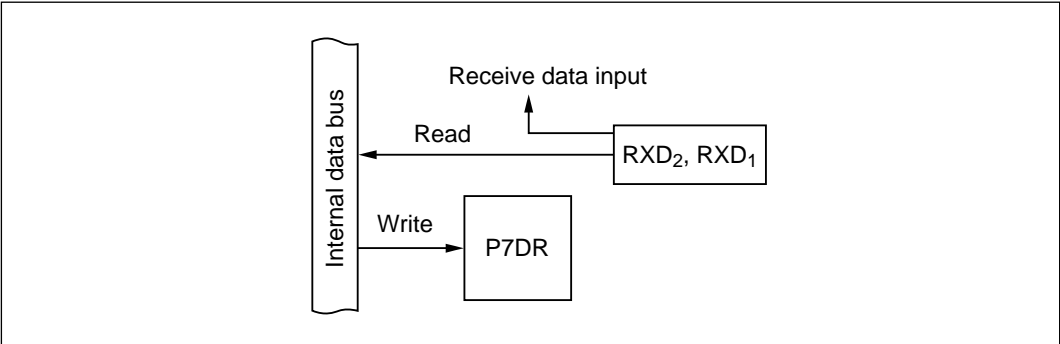

Figure 9-49 RXD₂ and RXD₁ Input (Modes 1 to 7)
(6) **RXD₂ and RXD₁ Input (P7₅ and P7₃: Modes 1 to 7):** Figure 9-49 shows a block diagram illustrating the RXD₂ and RXD₁ input function. Table 9-39 indicates register read/write data. When P7₅ and P7₃ are used for RXD₂ and RXD₁ input, the value written in P7DR is ignored, but P7DR can be read to monitor the levels at the RXD₂ and RXD₁ pins (to detect the line break state, for example).